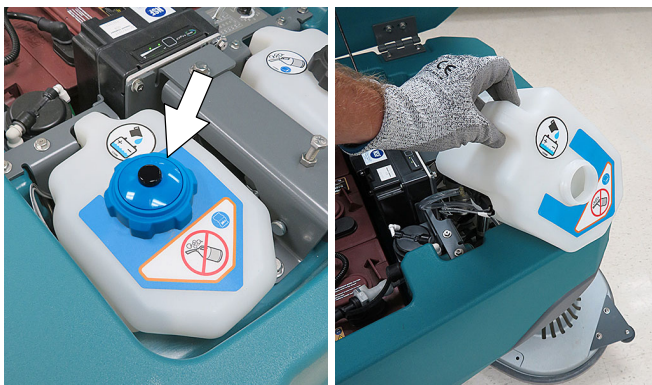

FIG. 159
5. Models equipped with optional automatic battery watering tank - Lift tank from machine and empty the water from tank (Figure 159).